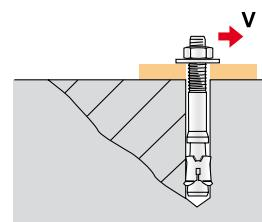

fig.22
- Pry-out failure (fig.22): where the anchor acting as a lever in the concrete succeeds in dislodging the part of concrete which is on the opposing side to the shear force.